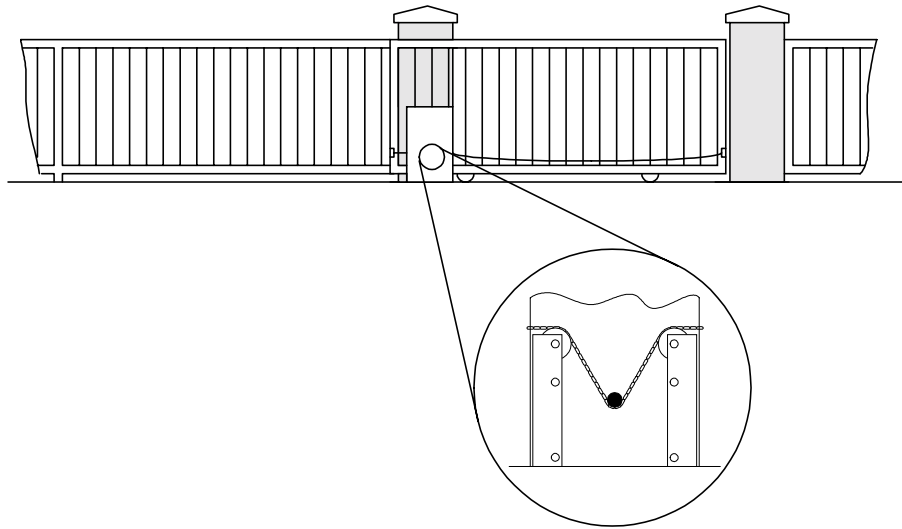

Figure 12
2. Route the chain through the gate operator: over the chain guide idlers and under the drive sprocket (figure 12).